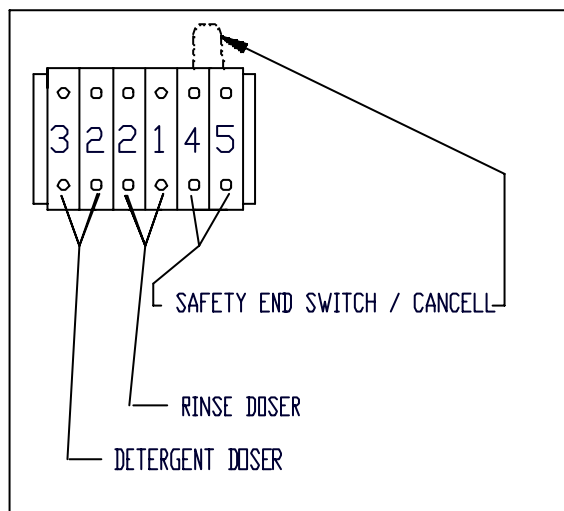

Fig.7
See figure 7 to connect electrically detergent and rinse dosers as well as the table limit switch.
- The connections between the detergent doser, the rinse doser and the safety end switch with the binding clamp should be done as shown in figure 7, page 5.
- This safety switch is to avoid rack jam at exit table if it is required. See fig.7, page5 for electric connection.